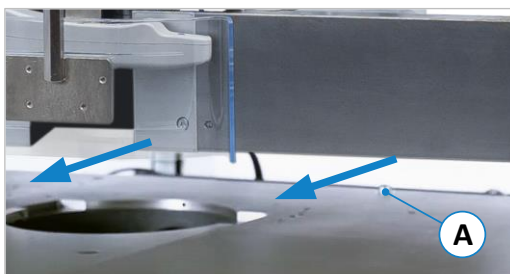
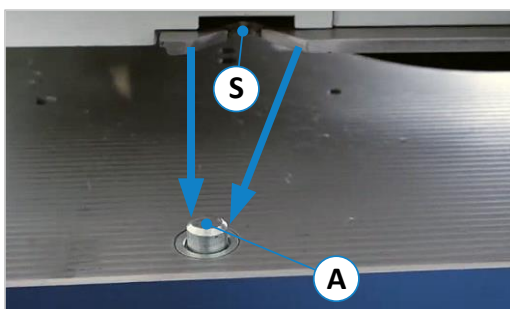

Figure 28: Move centrally over milling spindle
Figure 29: Align dovetail receptacle to locking pin
- Move the fence over the machine table with the help of a second person, with a suitable hoist or with the optional Swivel-away device so that it is approximately centred over the milling spindle (see ⇨ Figure 28).
- Now stand on the back of the machine and pull the fence with the dovetail receptacle (S) as close as possible against the locking pin (A).
- Now set the fence down and move the rest by hand so that the locking bolt (A) engages securely in the receptacle (S) as shown in ⇨ Figure 29.